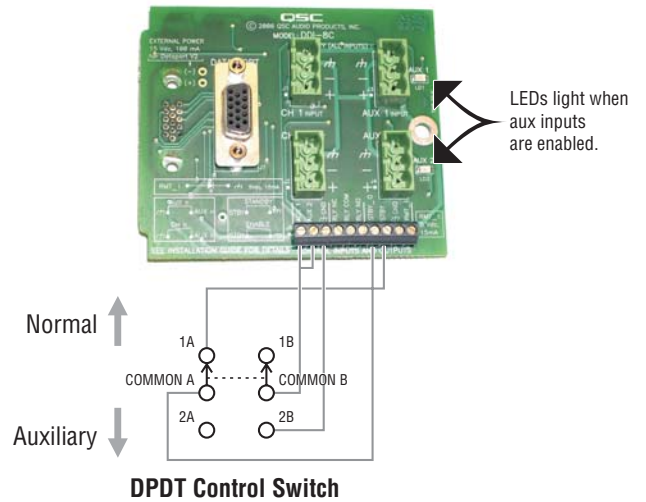
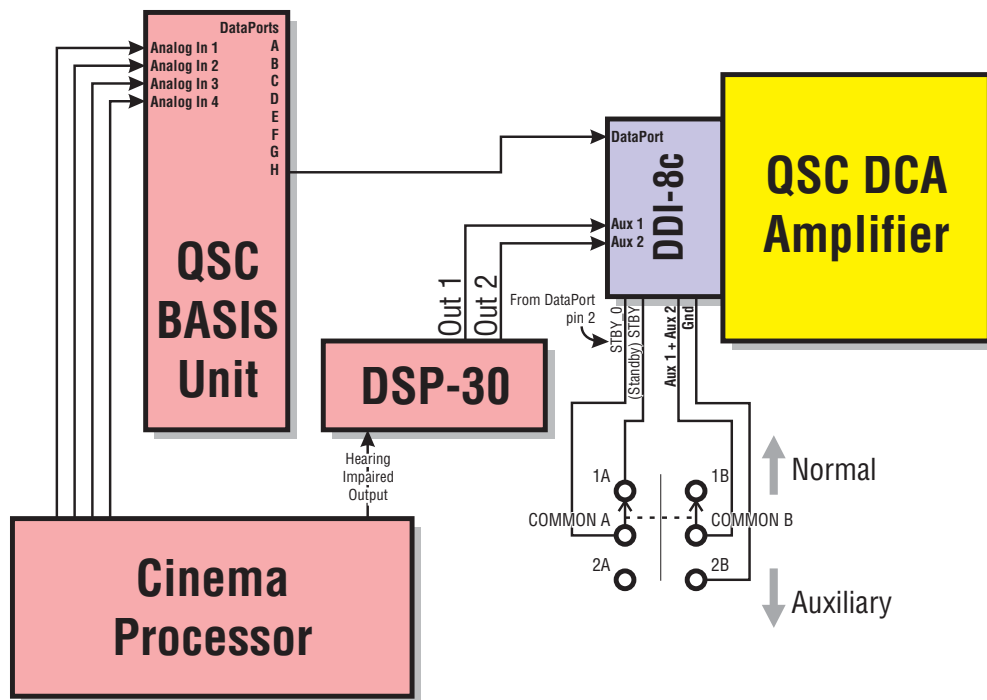

Figure 1. The DDI-8c
Figure 3. Block diagram of backup cinema system
When wired to a DPDT switch as shown in Figure 1, it allows the projectionist or operator to switch the amplifier inputs over to auxiliary audio sources, fed by a DSP-30, in the event of a failure of the BASIS unit. See Figure 3 for a block diagram of the backup system arrangement.
8. Wire the DPDT switch to the DDI-8c as shown in Figure 1.